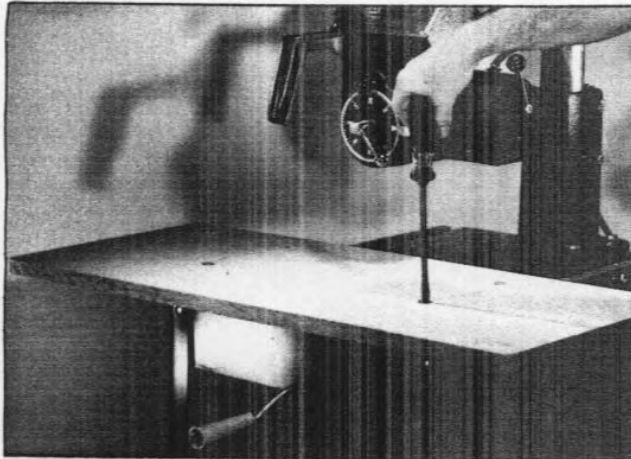

Fig. 17
4. Fasten the main table board in place, using screws and washers provided, see Fig. 17.